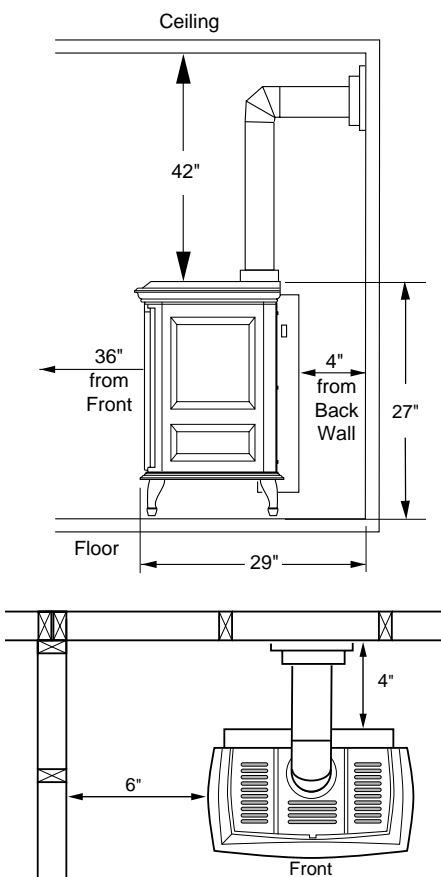

Figure 3 - Clearances for Standard Installation
- Proper clearances must be maintained, see Figures 3 and 4.